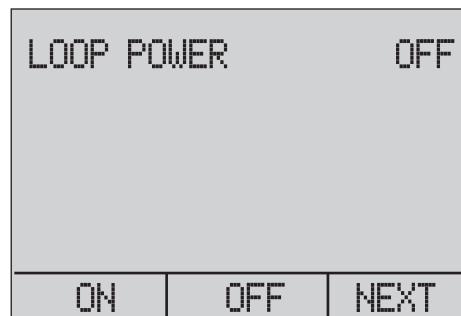

Figure 30. Loop Power Screen
4. **"LOOP POWER"** can be toggled on or off. Select **"NEXT"** when done. See Figure 30.